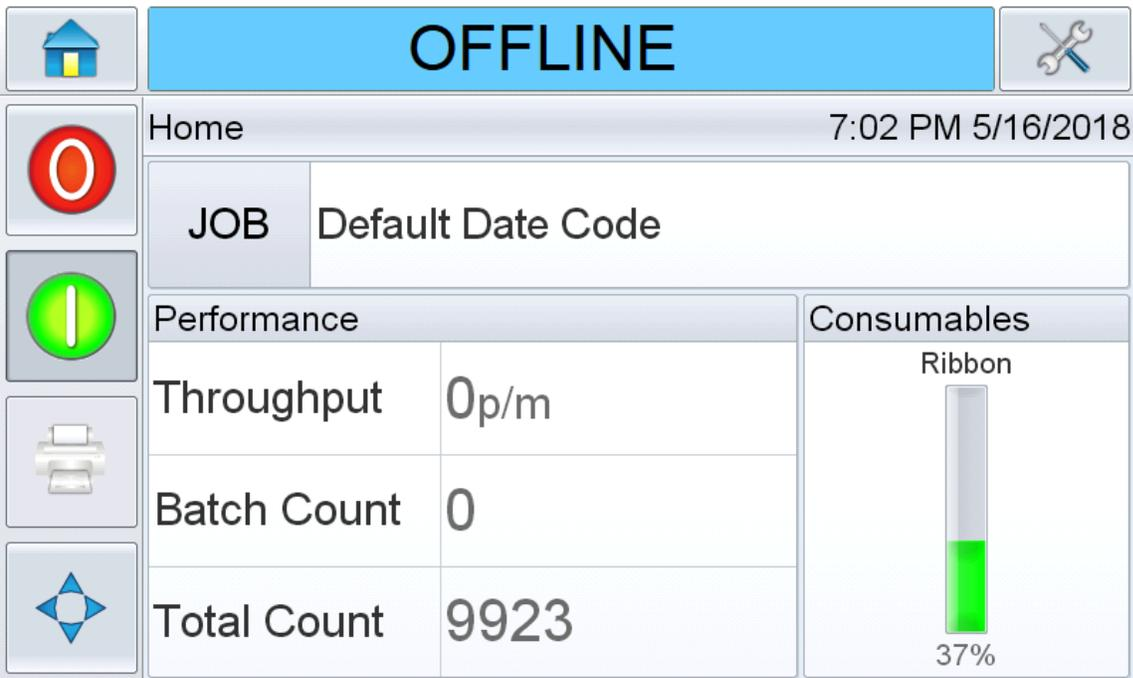

Figure 4-1: CLARiTY Home Screen in the Offline State
Figure 4-1 displays the CLARiTY Home screen in the OFFLINE state .
1. Ensure that the printer is in the OFFLINE state (Refer Figure 4-1 on page 4-2).